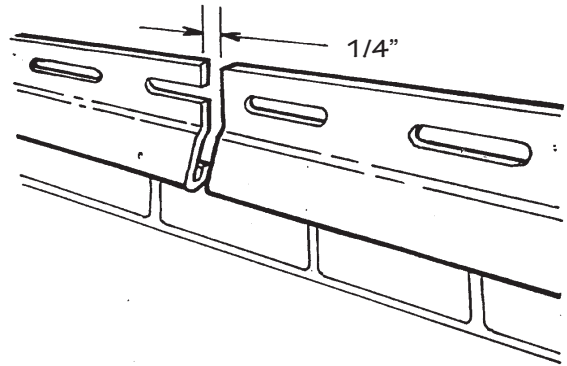

Figure 29.
- Keep the ends of starter strips at least 1/4" (6.4mm) apart to allow for expansion (Fig. 29).